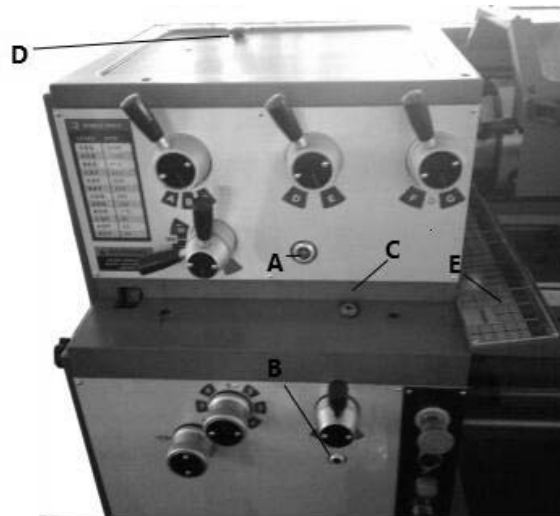
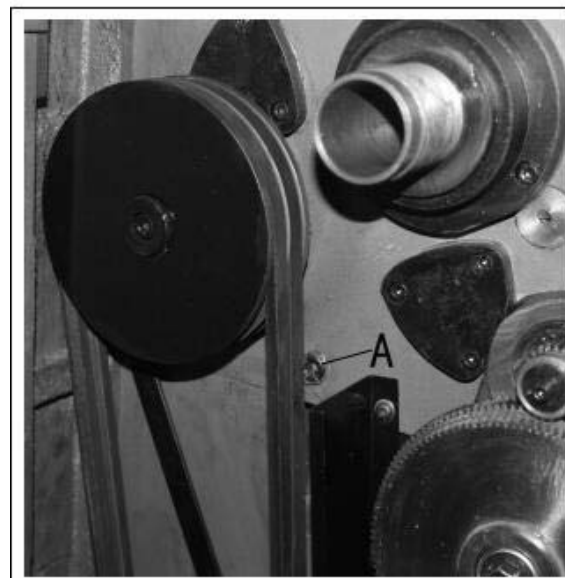
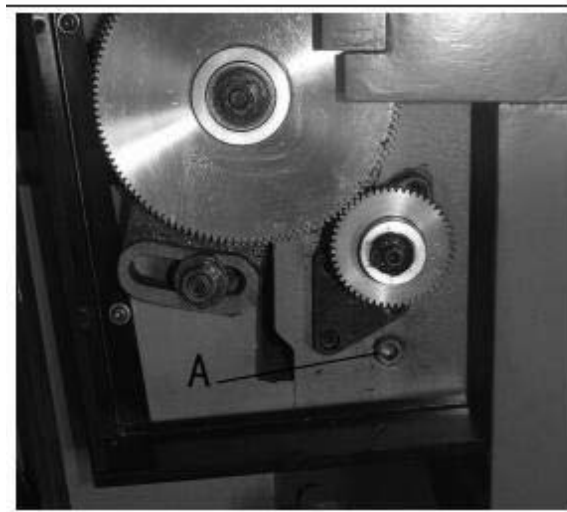

Figure 4
Figure 5
Figure 6
1. **Headstock** - Oil must be up to indicator mark in oil sight glass (A, Fig. 4). Top off with Mobil DTE® Oil Heavy Medium. Fill by pulling plug (D, Fig. 4). To drain, remove drain plug (A, Fig. 5) with an 8mm hex wrench. Drain oil completely and refill after the first month of operation. Clean out any metal shavings. Then, change oil in the headstock annually.
2. **Gearbox** - Oil must be up to indicator mark in oil sight glass (B, Fig. 4). Top off with Mobil DTE® Oil Heavy Medium. Fill by lifting off thread chart cover (E, Fig. 4) and remove plug (C, Fig. 4) with an 8mm hex wrench. To drain, remove drain plug (A, Fig. 6) with an 8mm hex wrench. Drain oil completely and refill after the first month of operation. Then, change oil in the Gearbox annually.